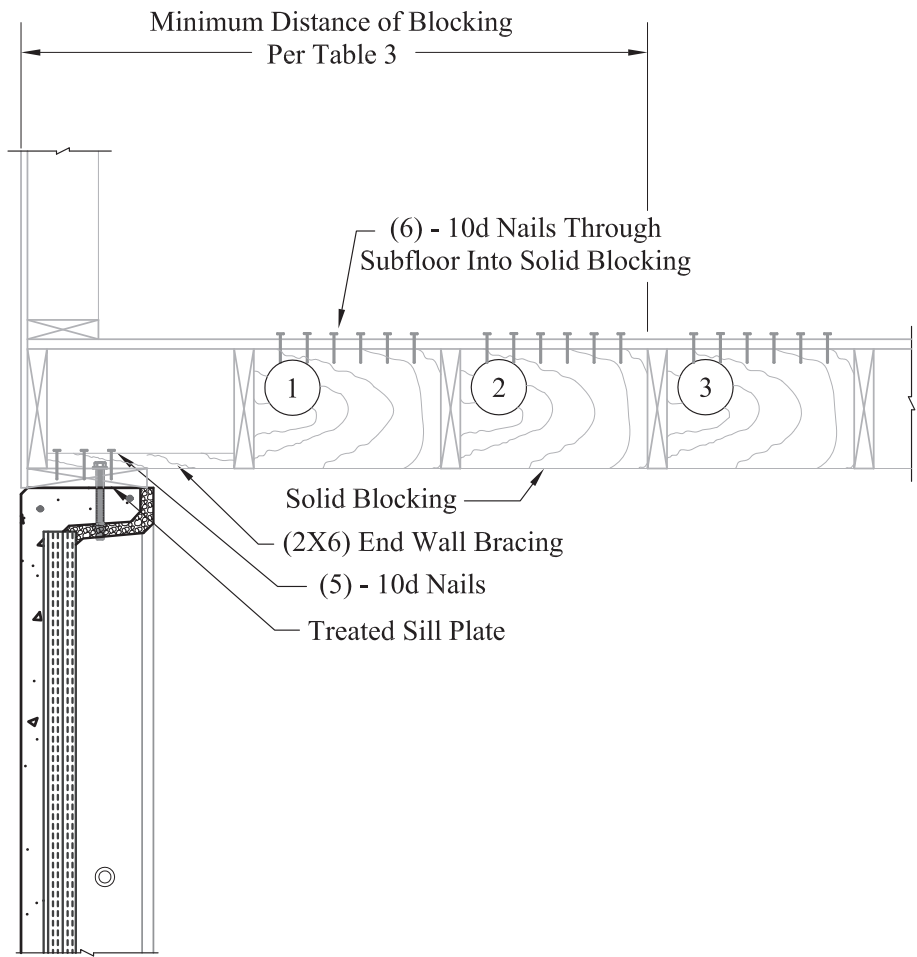
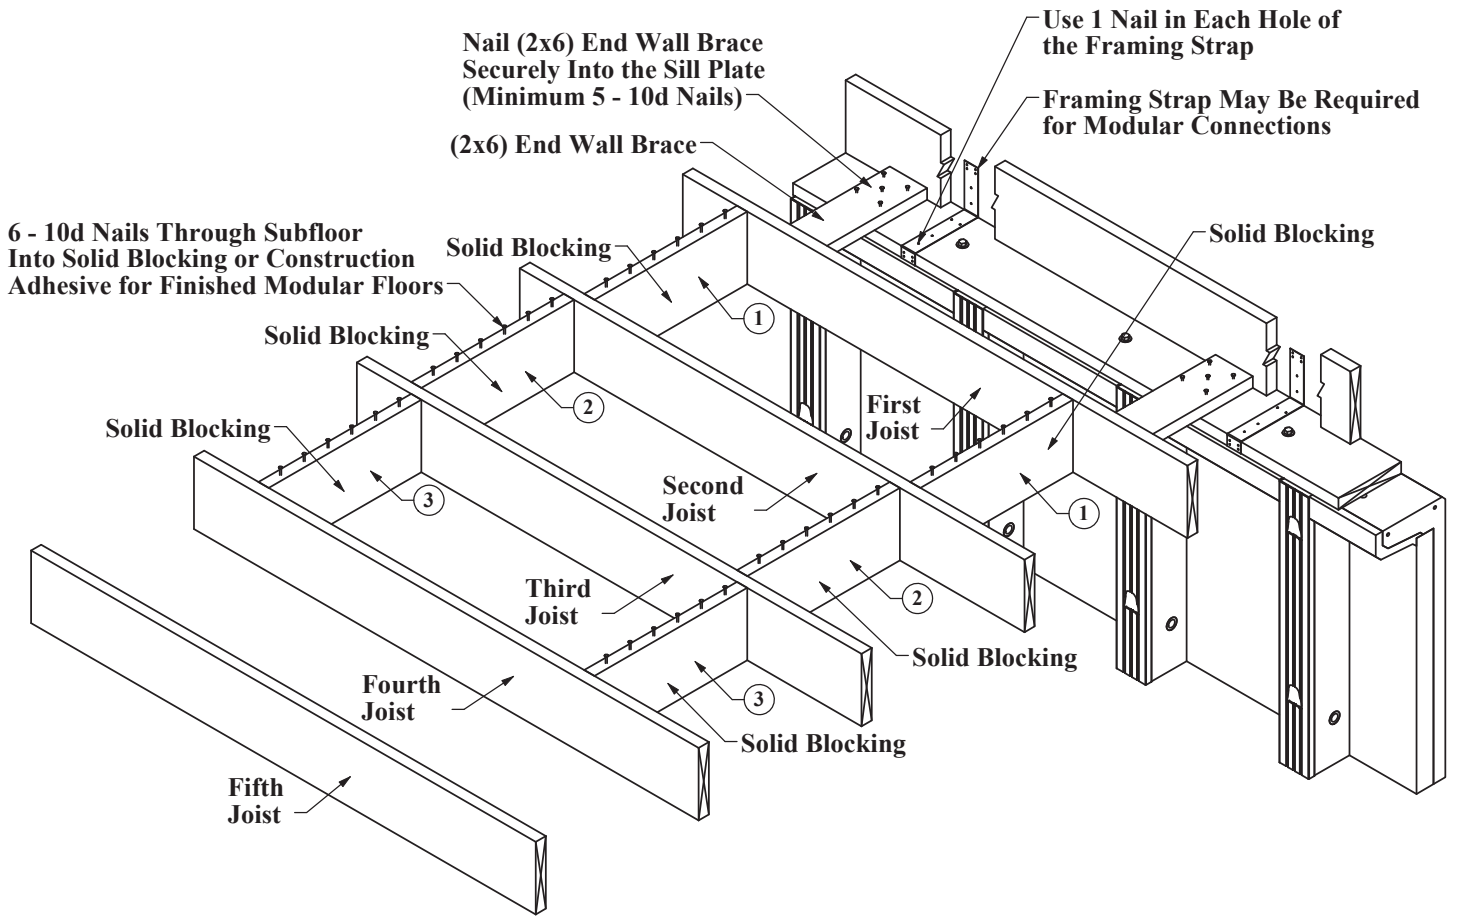
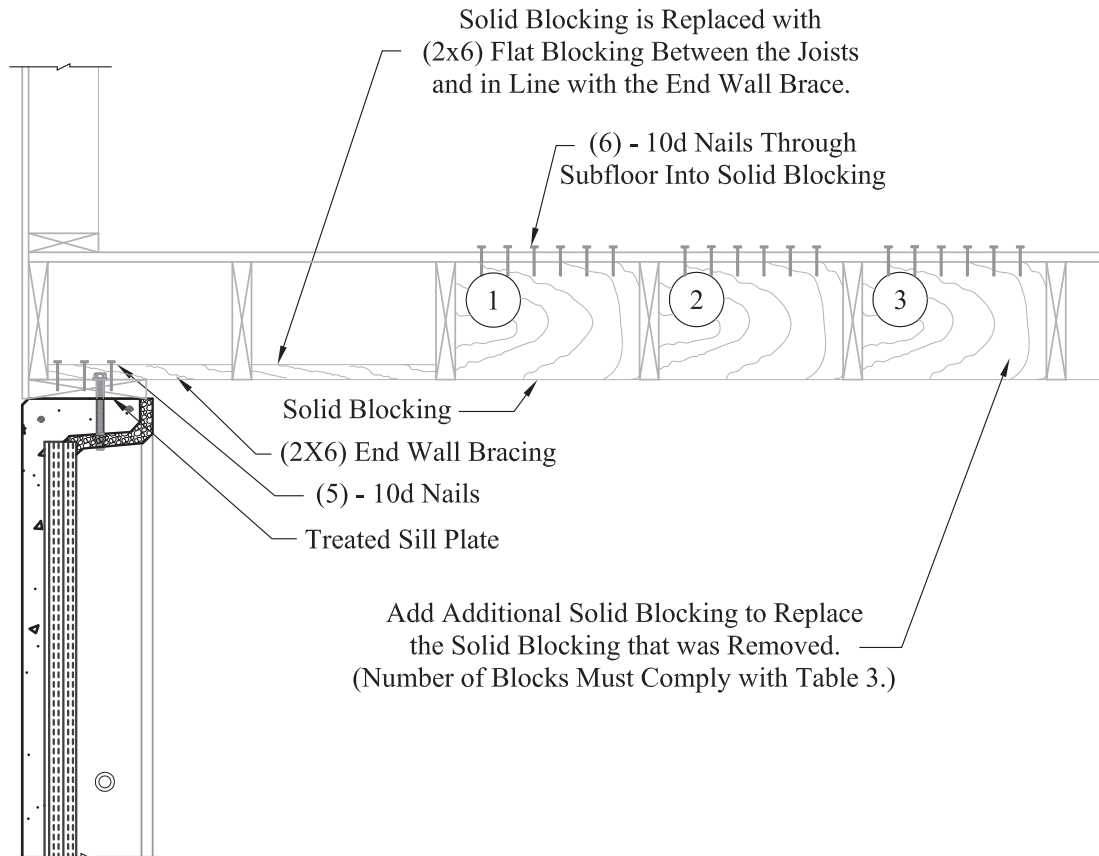

Figure 19
Figure 20
Figure 21
- Nail a 2 x 6 end wall brace securely to the sill plate with five 10d nails every 48" on center. (Braces must be within 12" from the interior of each corner.) See Figure 19 on page 27 and Figure 20 on page 28.
To accommodate for HVAC ductwork that is located where Solid Blocking is shown in Figure 19 on page 27 and Figure 20 on page 28, additional blocking is required as shown in Figure 21 (below).
- Solid Blocking is replaced with 2x6 Flat Blocking. (Locate Flat Blocking between the joists and in line with the 2x6 End Wall Braces.) (See Figure 21.)
- When not using the Framing Strap: Nail 2x6 End Wall Bracing to the sill plate using five 10d nails. See Figure 19 on page 27 and Figure 20 on page 28.